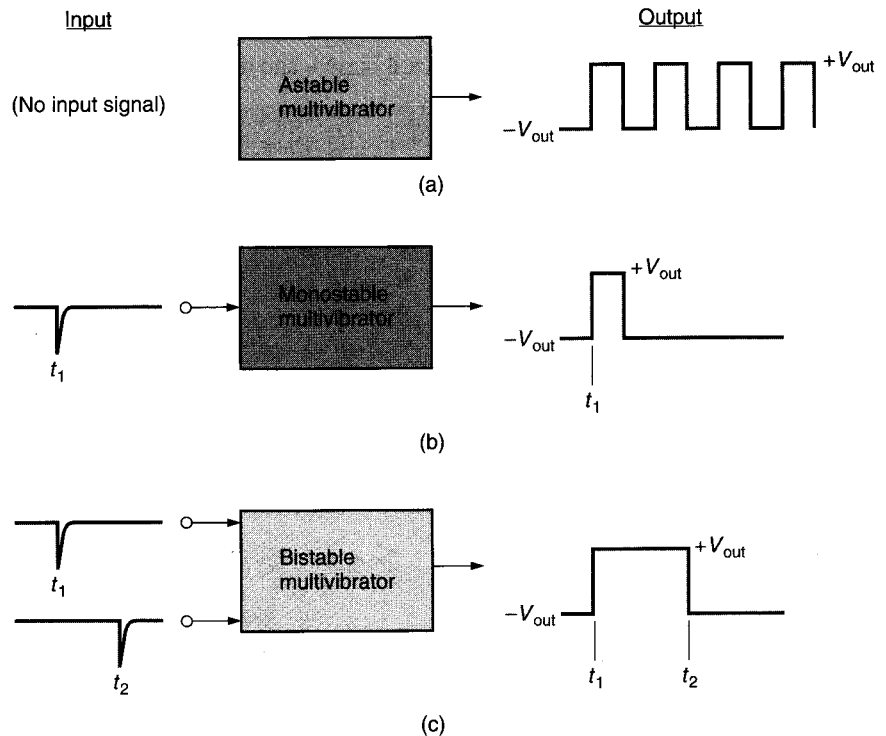

FIGURE 19.31 Multivibrator input/output relationships.
**Multivibrators** are circuits designed to have zero, one, or two *stable* output states. The concept of *stable* output states is illustrated in Figure 19.31.
As you have probably figured out by now, the term *astable* means *not stable*, the term *monostable* means *one stable* state, and the term *bistable* means *two stable* states. If you take another look at Figure 19.31, you might notice something else that is appro-